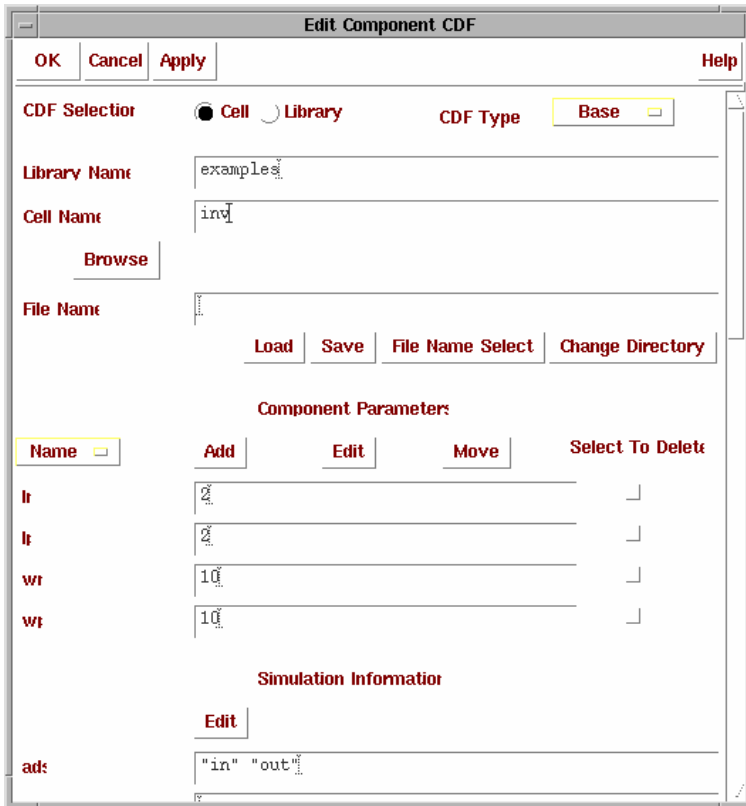

Figure 9-6. Edit Component CDF Form
The parameter values are reflected in the netlist that is sent to the simulator. These values can be viewed and edited using the Cadence *Edit Component CDF* form (see Figure 9-6).
1. Go to the *Simulation Information* section of the *Edit Component CDF* form (see Figure 9-6) and click **Edit**.